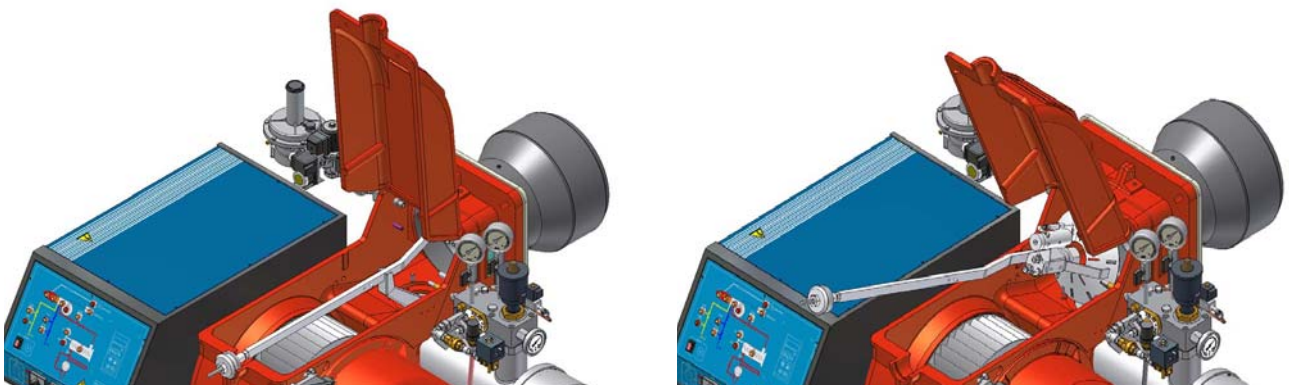

Fig. 38
- Unscrew the flexible hoses from the gun (burner side) and remove the whole assembly as shown on Fig. 38.